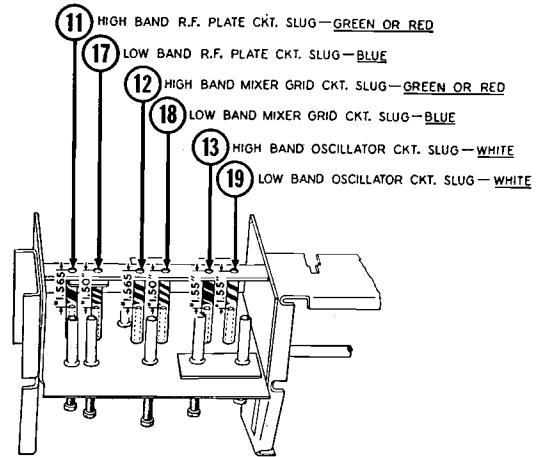

FIG. 7
3. Before undertaking alignment of the RF tuner it is necessary to set the tuning slugs to their correct mechanical position as shown in Fig. 7 (see slugs numbered 11, 12, 13, 17, 18 and 19). That is accomplished by first turning the receiver Channel Selector Knob to channel #12 and then using three special tools that are supplied by Stewart-Warner in Alignment Tool Kit #507475. Note that bottom tip of each slug is color coded and that the aligning tools are identified by corresponding colors as the tools differ in length.